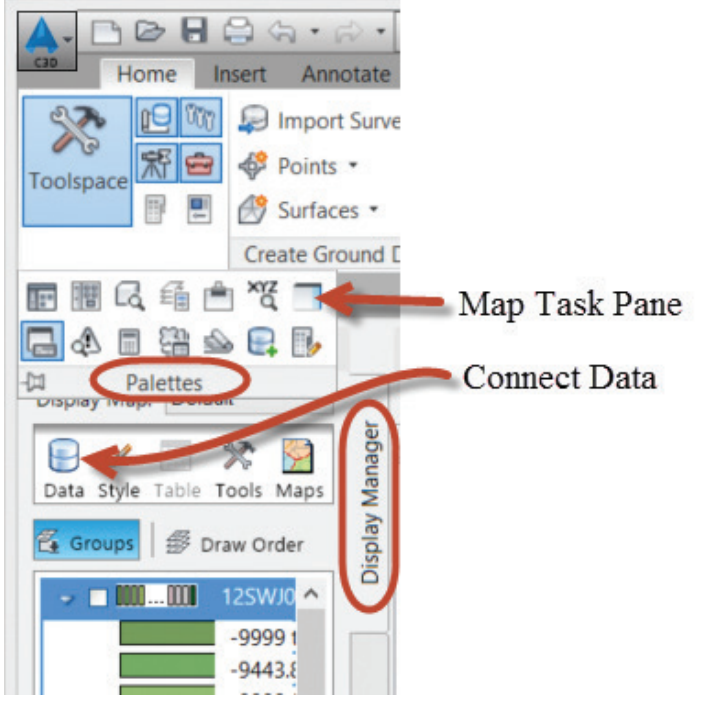

Figure 6: Open Data Connect palette
- In the Civil 3D Workspace, Home tab, expand the Palettes panel and click Map Task Pane, as shown in Figure 6.